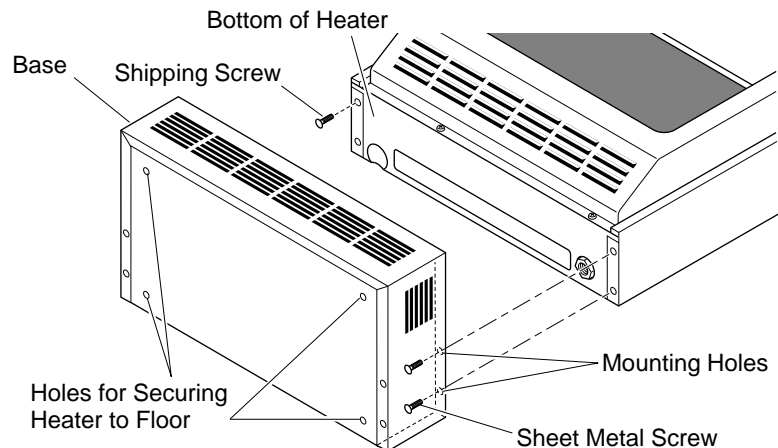

Figure 18 - Attaching Heater to Hearth Base
3. Line up mounting holes on top of hearth base with holes in bottom of heater (see Figure 18).
4. Using a Phillips screwdriver, secure hearth base to heater with four sheet metal screws (see Figure 18).
1. Position hearth base in desired location. Mark holes for drilling (See Figure 18). Remove hearth base.